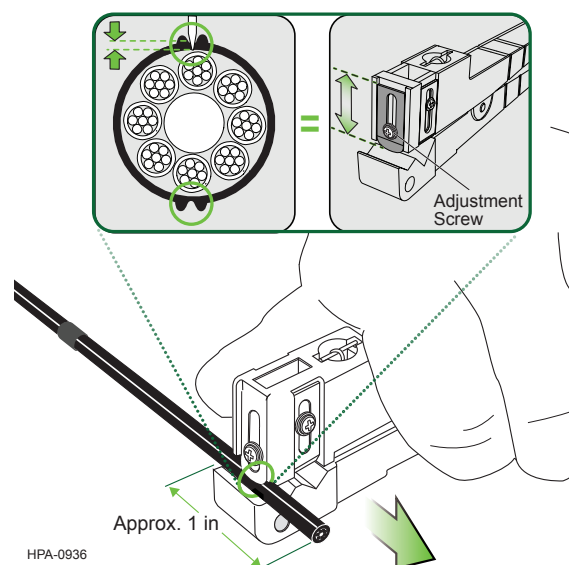

Figure 4
Step 4: Using the rounded blade on the end of the Ideal® tool, make a longitudinal cut on the two dual lobes opposite each other approximately 1-in from the end of the cable. First calibrate round blade depth (Figure 4).